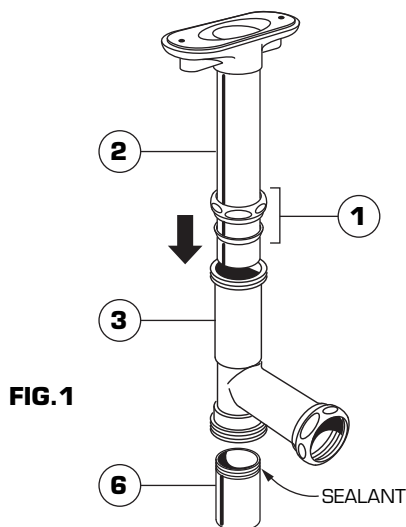

FIG. 1
- Loosen SLIP JOINT NUT & SEAL (1) and install onto OVERFLOW TUBE (2). Install OVERFLOW TUBE ASSEMBLY (2) into the appropriate leg of the DRAIN TEE (3). Apply sealant to threads of TAILPIECE (6) and thread into DRAIN TEE (3). FIG. 1.
- Install OVERFLOW ESCUTCHEON (1) onto RETAINING PLATE (2). Use MOUNTING SCREWS (3) to secure OVERFLOW ESCUTCHEON (1). Fig. 1.
Note: Waste outlet can be installed either above the floor or below floor. Fig. 1.